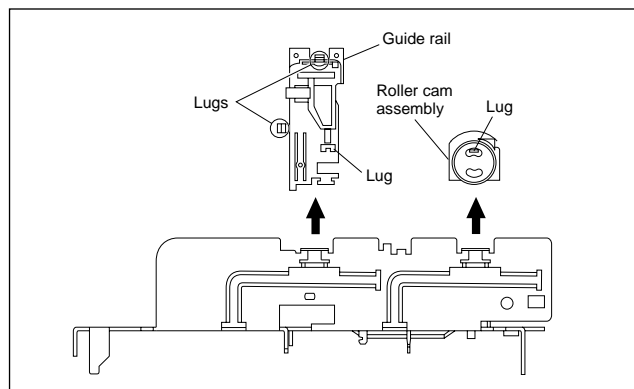

Fig. 2-2-3a
- (1) Remove the guide rail and roller cam assembly. (See Fig.2-2-3a.)